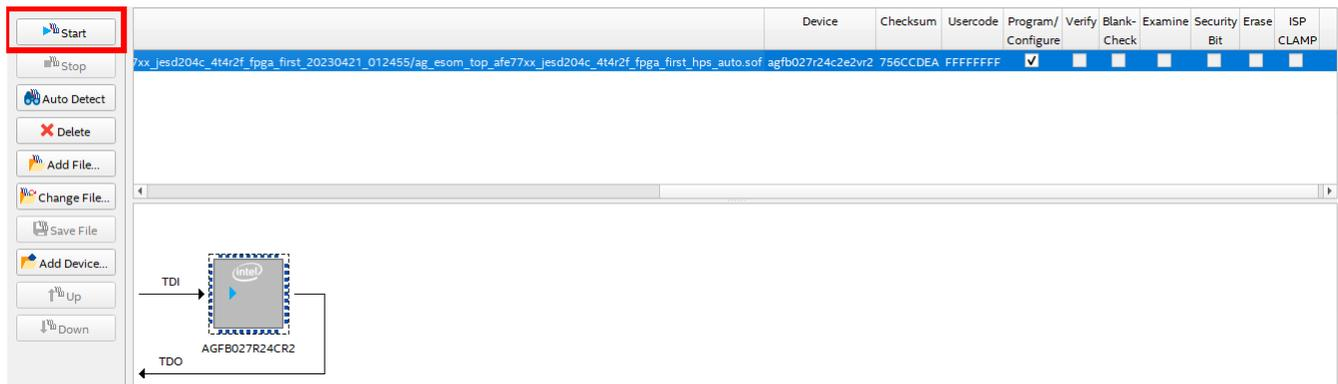

**Figure 4-12. Device Bringup, AFE77xxD-Params**
18. On the AFE77xxD GUI, the “Device Bringup” button at the bottom of the AFE77xxD-Params page should be clicked to start the configuration of the LMK04828 and AFE7769D chips. Figure 4-12 shows how to navigate to the respective button.